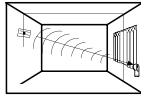

Fig. 3
For optimal performance the Wireless VITRON should be mounted as nearby opposite to the glass area to be protected, as shown in Fig 3.
- **Opposite Wall - Mounted** (For optimal results, Wireless VITRON is centered opposite glass, see Fig. 3).